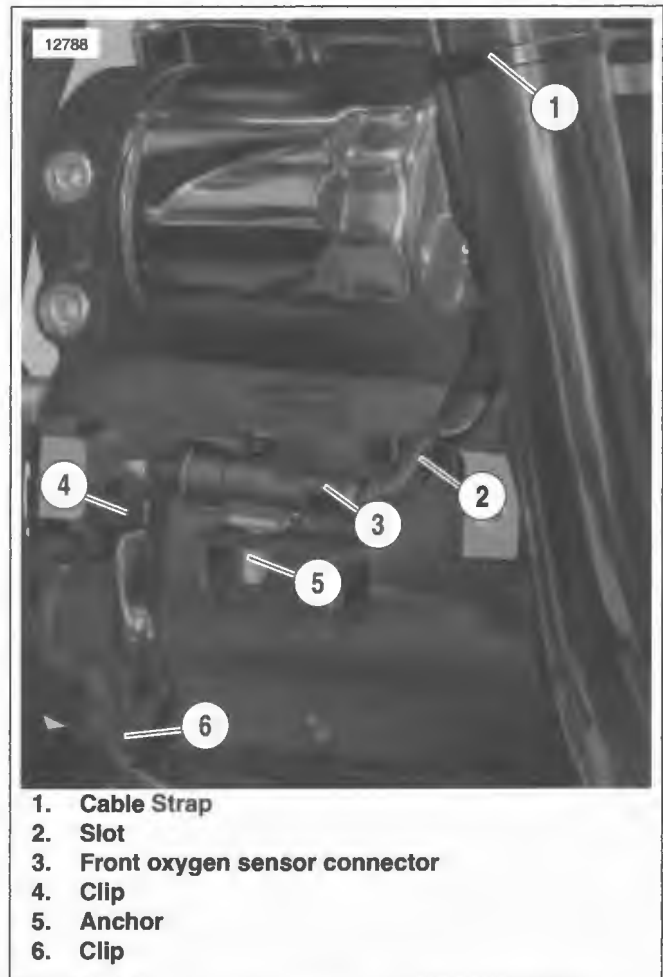

Figure 8-25. Front Oxygen Sensor Connector
11. See Figure 8-25. Slide front oxygen sensor connector (3) [138] from anchor (5).
12. Remove wiring from clips (4, 6) and slot (2).
4. See Figure 8-25. Connect front oxygen sensor connector (3) [138]. Install connector on clip (5). Route wiring as shown.